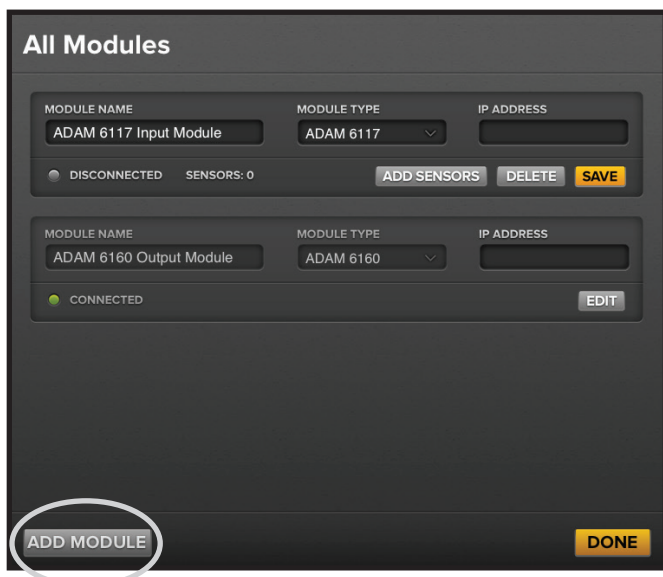

Figure 3—All Modules page
3. In the top left corner of the screen, touch **Modules** (Figure 1 on the previous page). The All Modules page appears (Figure 3).
4. If necessary, at the bottom of the All Modules page, touch **Add Module** (Figure 3).
5. Enter a name for the module, select the module type (**ADAM 6117**), and enter the module's IP address (Figure 3). Your module IP addresses should be recorded on page 28 of this manual.